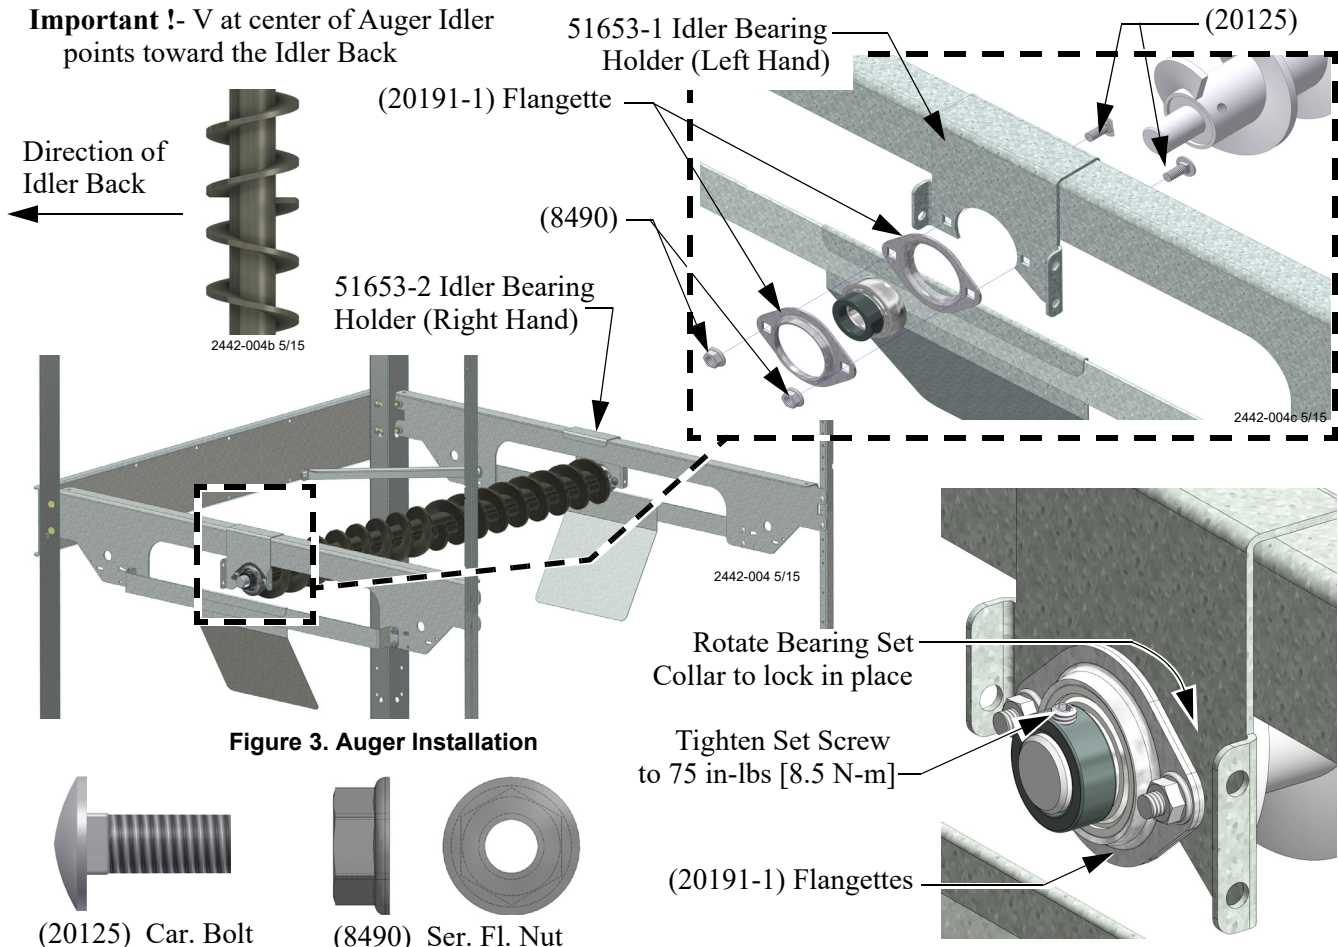

Figure 3. Auger Installation
- 3.Hang the Idler Bearing Holders (51653-1 and 51653-2) on the Rails (See Figure 3.)
- 7.Tighten the Set Screws to 75 in-lbs [8.5 N-m] (See Figure 3.).